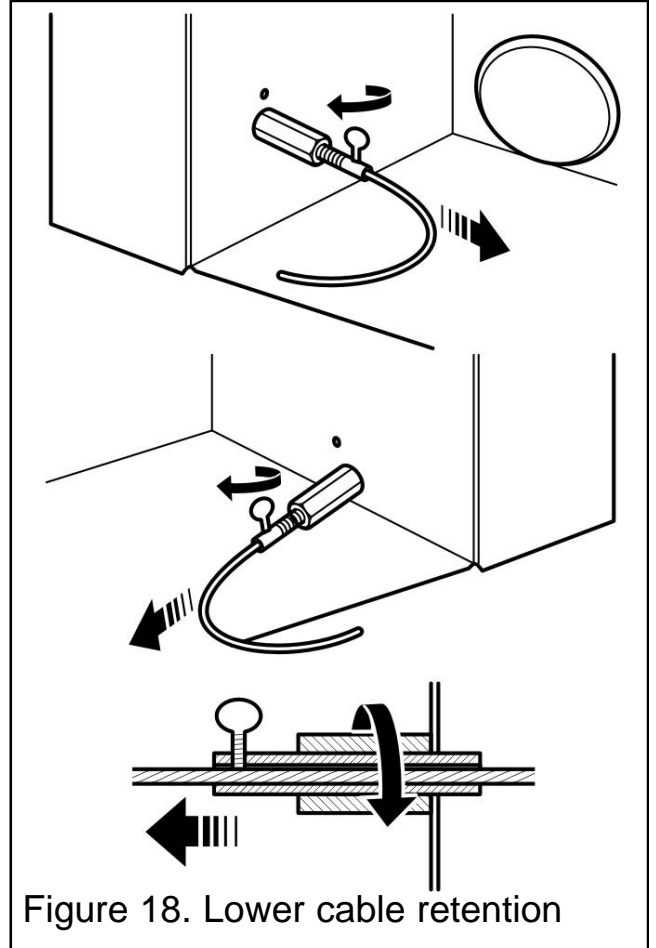

Figure 18. Lower cable retention
9. Pull each cable taut. Push the cable retainers hard up against the side panels. The end of the cable adjuster will pass into the hole. Tighten the screws in the retainers so that they clamp the cables in position. Apply tension to the cables by turning the hexagonal adjusters by hand (See figure 18).